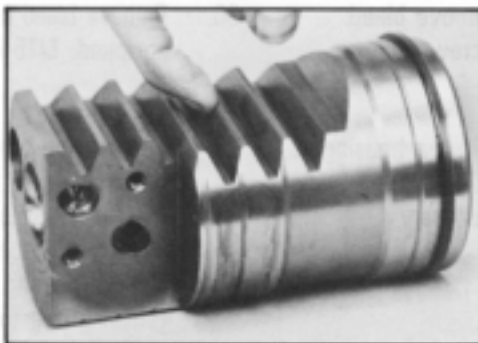

Figure 88
1. Inspect rack piston (39) teeth for cracks and wear. If you can detect a step by running your fingernail horizontally across the teeth surface, you must replace the rack piston, sector shaft (51) and set of 22 balls (34). SEE FIGURE 88.